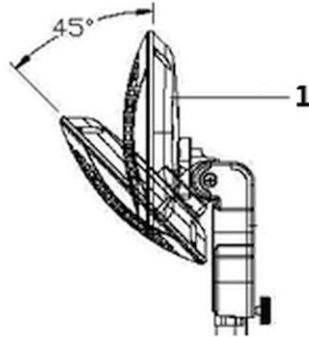

Fig. 6
5. Before changing of the inclination angle (Fig. 6), switch the appliance off and leave it to cool down for 15 minutes.